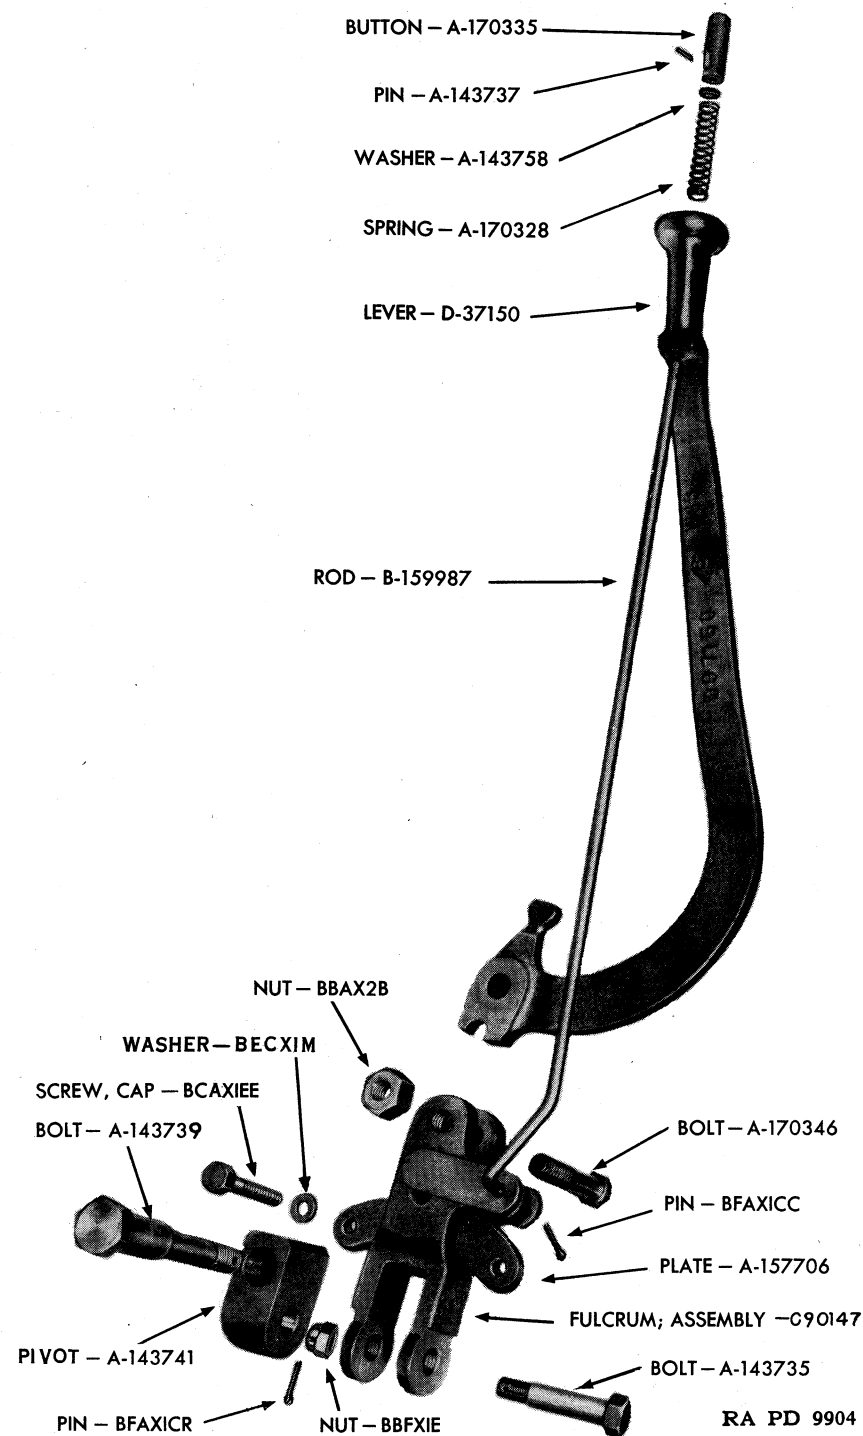

FIGURE 58—Parts of gear shift lever.
27. Gear shift lever (*fig. 58*).—If it is desired to replace the gear shift LEVER (D37150) with ROD (B159987) assembly proceed as follows: Remove cotter PIN (BFAX1CC). Use a 1-in. socket and remove NUT (BBAX2B) from pivot BOLT (A170346). Remove lever with rod assembly. Replace bolt if worn more than .020-in. Reverse the sequence of the disassembly procedure to install the new assembly. If necessary to remove ROD (B159987) push the rod through the handle until PIN (A143737) is exposed. Use a $\frac{1}{16}$ -in. pin punch and drive pin out of BUT-